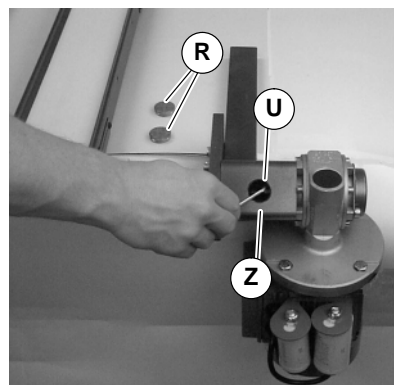

Figure 24
1. Remove inspection plugs (R of Figure 24). Jog motor and rotate coupling to align set screws (U) with access hole (Z). Loosen set screw (U). Repeat for second set screw.